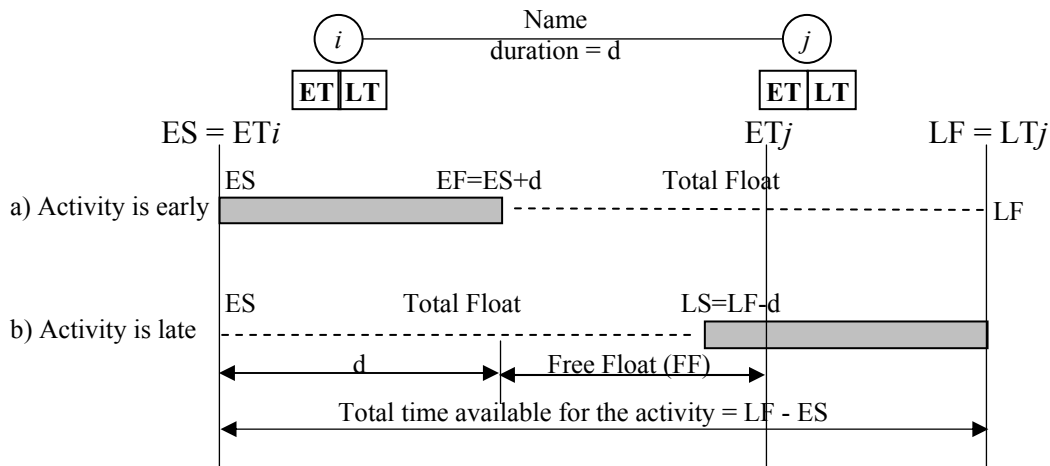

Figure 4.7: Float calculations
Once forward path and backward path calculations are complete, it is possible to analyze the activity times. First, let's tabulate the information we have as shown in Table 4.1. One important aspect is Total-Float (TF) calculations, which determine the flexibility of an activity to be delayed. Notice in Table 4.1 that some activities such as activity A has ES time = LS time, and its EF time = LF time, indicating no slack time for the activity. Other activities such as B can start early at time 3 and late at time 6, indicating a 3-day of total float. Float calculations can be illustrated as shown in Figure 4.7 for any activity.
Figure 4.7 shows two ways of scheduling each activity using its activity times. One way is to schedule it as early as possible (using its ES time). The other way is as late as possible (using its LS time). The activity float can, therefore, be represented by the following relationships: